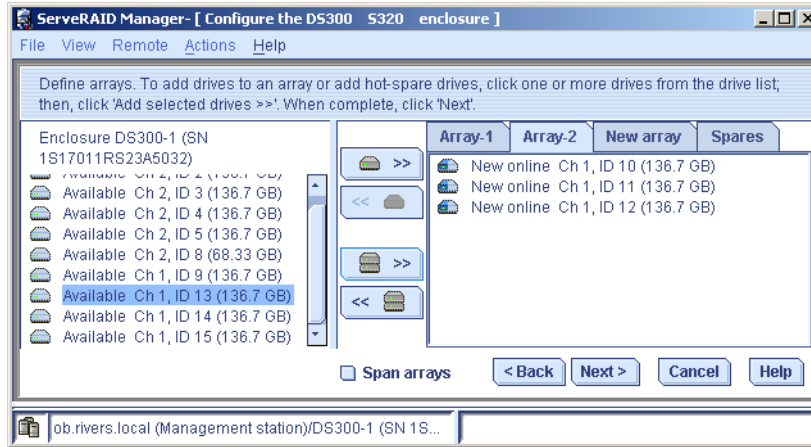

Figure 4-62 Array-2 with three drives
7. The selected drives will be added to the new array and the array is named **Array-2**. A new tab named **New array** is created. Figure 4-62 on page 118.